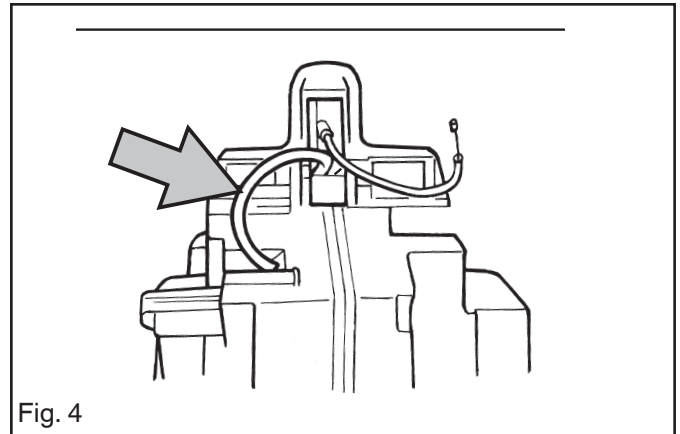

Fig. 4
- Press the oiled part through the hole in the tank unit. Allow 80-85 mm to protrude on the outside. See fig. 4.
- Turn the pipe so that it bends upwards. See fig. 4.